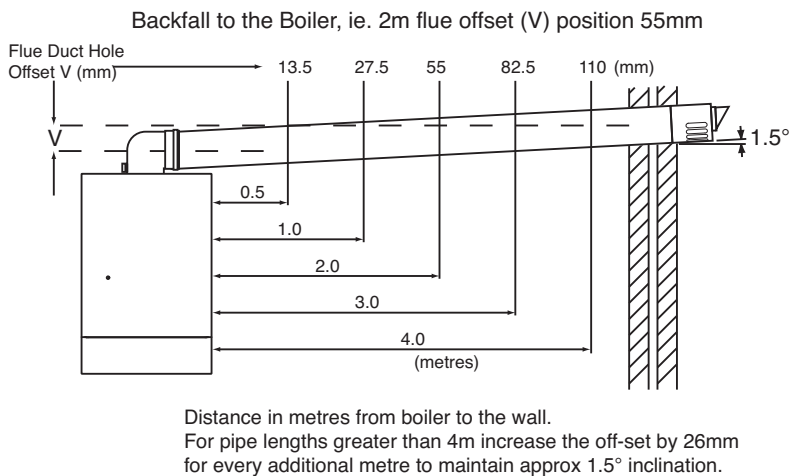

Fig. 21
The diagram (Fig. 21) shows the dimensions required to ensure any horizontal flue is installed with the correct fall to the boiler. Mark the offset (V) dimension and if required, mark the position of the gas and water pipes. Remove the template.